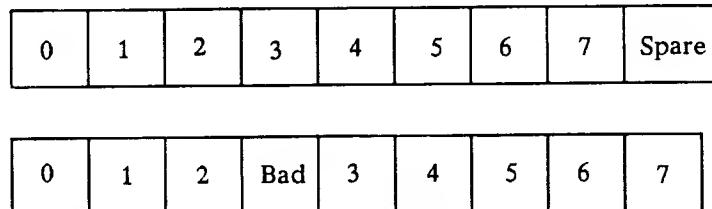

Figure 8-4. Sector Slip
Slipping a sector requires using the Read and Write Track Headers commands to mark the bad sector and slip the rest of the sectors into the next position on the disk. Figure 8-4 shows an 8-sector track before and after slipping Sector 3.
6. Move each sector header into the next location, *slipping* the sectors down the track (see Figure 8-4).